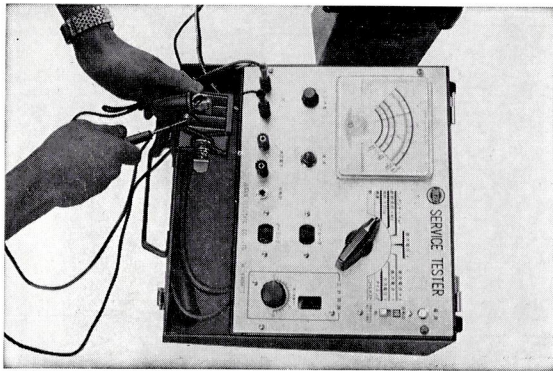

Fig. 5.95 Rectifier measuring
- a. When checking the selenium rectifier, both positive and negative resistance values should be measured. (Fig. 5.95)
- (1) High temperature in during installation.
- (2) High humidity
- (3) Excessive current
- (4) Harmful corrosive gas
- (5) Especially when a motorcycle is driven without battery.